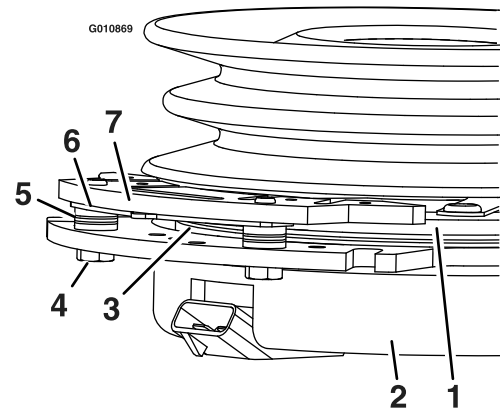

**Figure 65**
3. Remove the dust cap from caster and tighten the lock nut (Figure 65).
4. Tighten the locknut until the spring washers are flat, and then back off a 1/4 turn to properly set the preload on the bearings (Figure 65).
**Important:** Make sure that the spring washers are installed correctly as shown in Figure 65.
5. Install the dust cap (Figure 65).